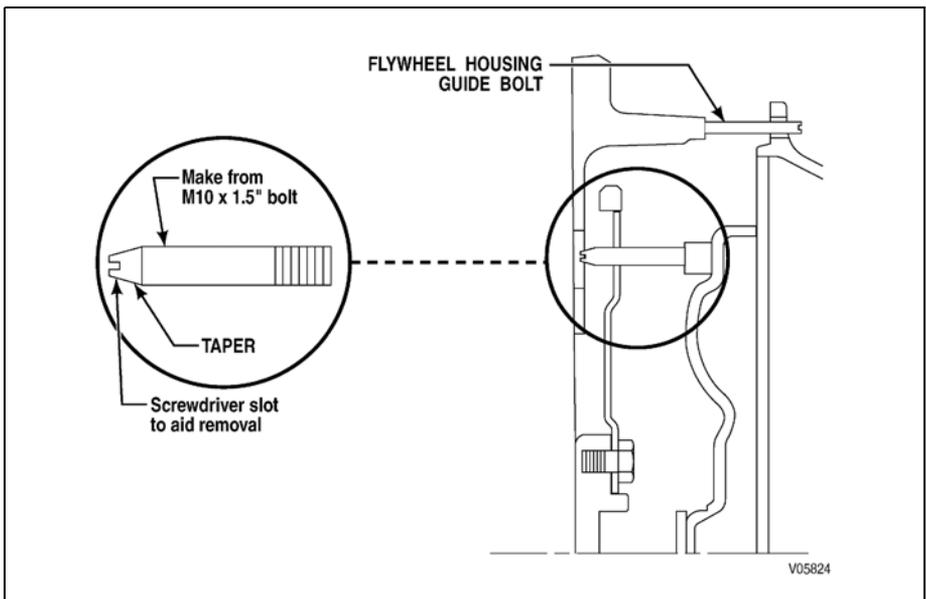

Figure 6–1. Pilot Tool for Transmission-To-Engine Alignment
6. Install an M10 x 1.5 headless guide bolt into one of the flexplate bolt holes in the flexplate adapter or torque converter mounting lug (refer to Figure 6–1). Align the guide bolt with the flexplate hole at the access opening.